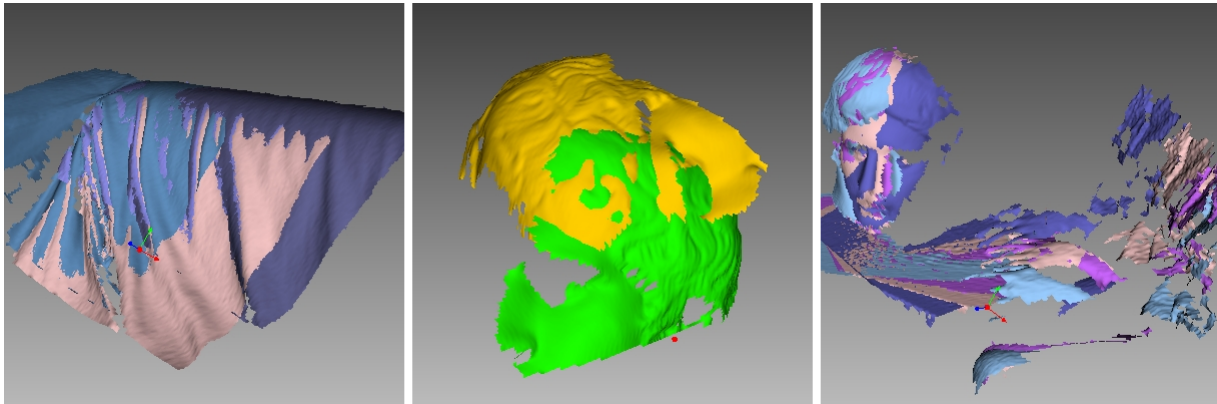

Figure 115: Possible scan errors.
- Misaligned frames (see Figure 115, left)—may occur because of small size, an insufficient number of geometrical features on the object or an insufficient number of polygons in a frame.
- Misaligned parts (see Figure 115, middle)—occurs when the real-time alignment algorithm incorrectly determines the position of the new frame relative to previous ones.
- Unwanted objects in the frame (see Figure 115, right).